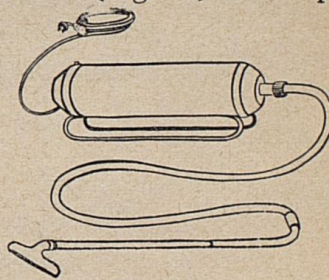
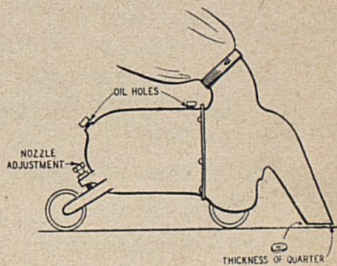
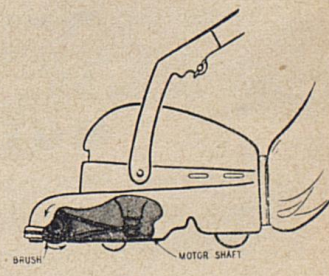

Fig. 30
Fig. 31
Fig. 32
There are two general types of cleaners, the cylinder type, Fig. 30, and upright type, Fig. 31. The cylinder type is always a straight suction cleaner. The upright may have a revolving brush or roll (Fig. 32) to sweep or vibrate the rug.
Remedy: Find the nozzle adjustment on your cleaner, Fig. 31, (some cleaners do not have an adjustment). Adjust so that a quarter slides easily between cleaner nozzle and rug. On cleaners with a rotating brush or roll, the clearance should be the thickness of a half dollar. Fig. 32.
Remedy: Examine the belt. Fig. 32. Make sure it is around both the brush and motor shaft and is not tangled with hair and strings. If after cleaning the brush it still will not turn with the motor, the belt is probably stretched and should be replaced with a new belt. To replace belt: Fig. 32.
Caution: Be sure brush rotates as shown in Fig. 32. If brush rotates in the opposite direction, remove belt from motor shaft, twist in the opposite direction, and replace.
1. Lubrication: Most cylinder type cleaners Fig. 30 and many upright cleaners Fig. 32 have bearings which are sealed and packed with grease at the factory. These types require no lubrication but should be inspected at least yearly by a competent serviceman. If any unusual noise develops in these cleaners they should immediately be taken to a serviceman, dealer, or manufacturer for inspection.
Some upright cleaners of the type shown in Fig. 31 have 2 oil holes located as shown. Oil these cleaners with 3 or 4 drops of electric motor oil monthly. An occasional drop of oil on the wheel bearings of the cleaner is desirable.